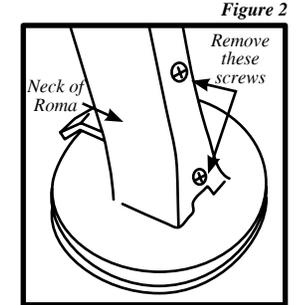

Figure 2
1. Making sure that the Roma food strainer & sauce maker is securely mounted to the work surface, remove the two screws from the neck of the Roma body. *Figure 2*